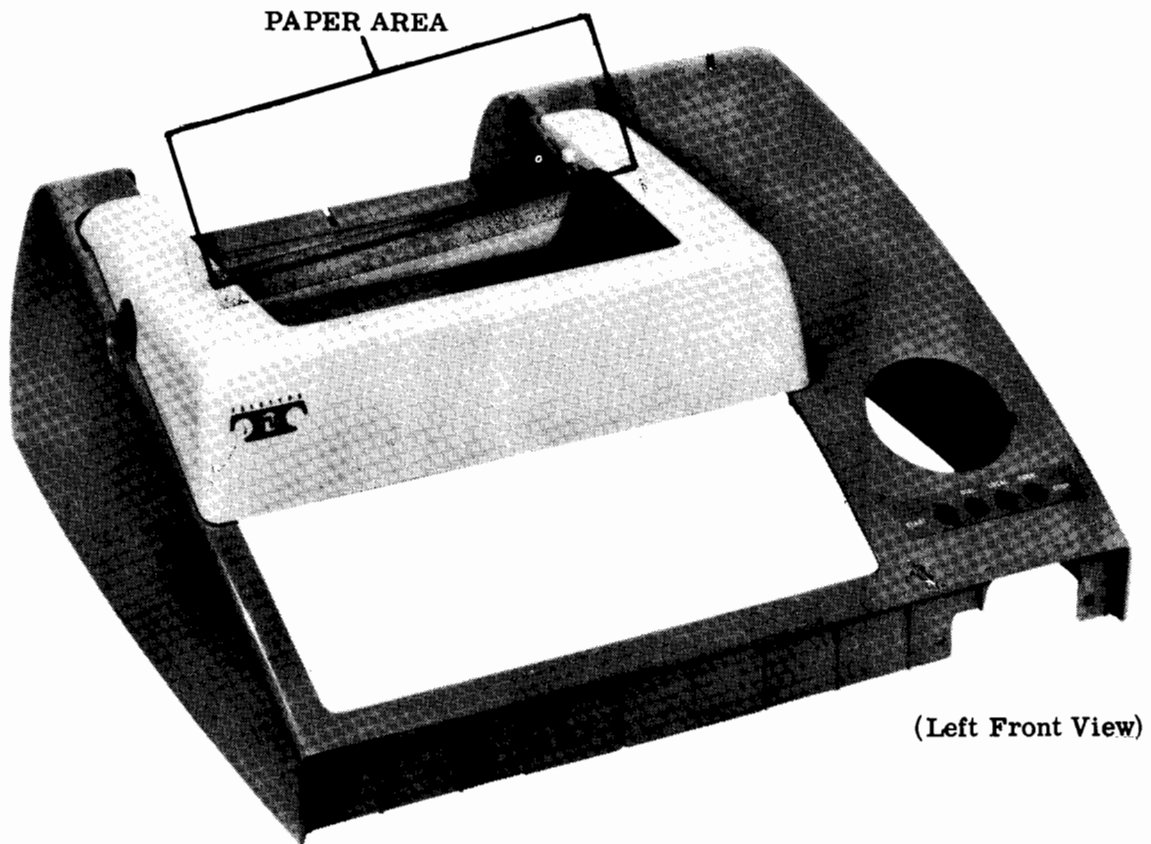

Figure 1 - Cover (Keyboard Send-Receive Set)
1.01 This section provides adjustment information for the 33 typing unit, tape punch, and reader covers. The requirements apply to covers for both Keyboard Send-Receive (KSR) and Automatic Send-Receive (ASR) Sets (Figures 1 and 2). This section is reissued to provide alphanumeric adjustment codes to the adjustment titles. The code consists of a three-letter combination to designate the area, and a number to distinguish between adjustments in that area. Since these codes are the only change to the sec-